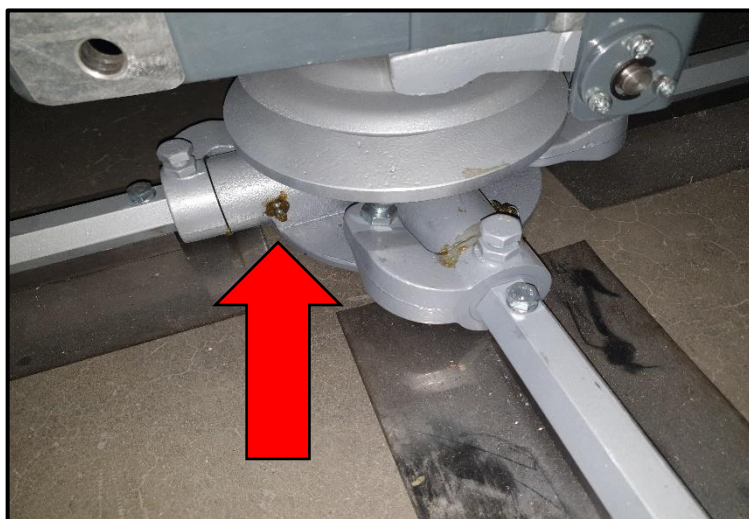

Figure 8.6.1
- ✓ Locate one of the Zerk grease fittings on either spider assembly (fig. 8.6.1). Remove the Zerk fitting cap and set it aside.